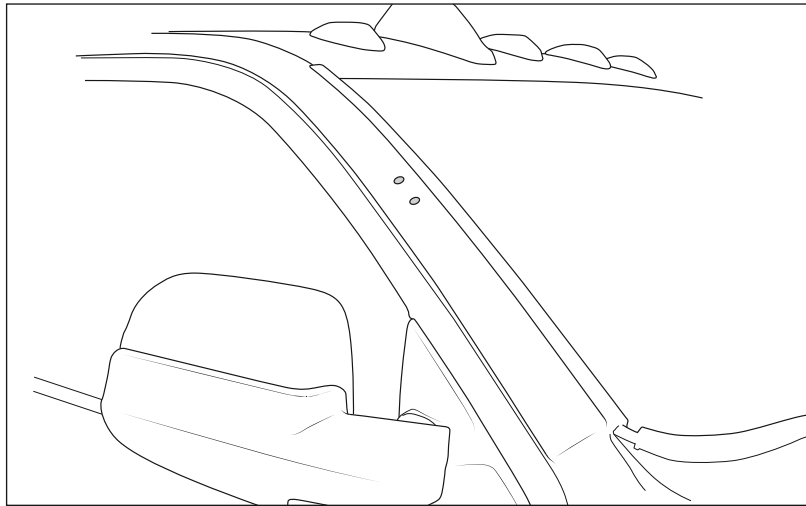

Figure 12
7. Center punch and drill the two A-pillar mounting locations out to 1/2" (fig. 12).